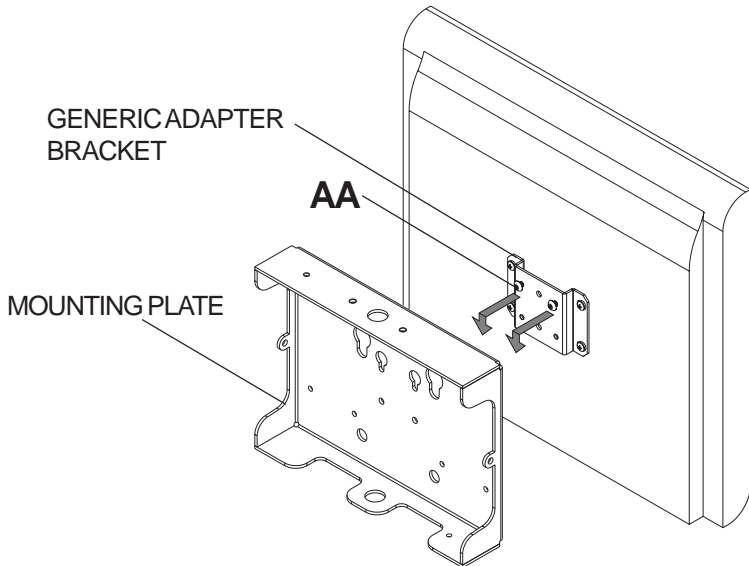

fig. 7.5
- 7 Thread two M5 x 10 mm screws (**AA**), leaving .25" exposed thread, into top holes on back of screen. Hook screen onto mounting plate, and attach using two bottom M5 x 10 mm screws as shown in figures 7.5 and 7.6. Tighten all four screws. If using security screws, tighten using security allen wrench (**M**).